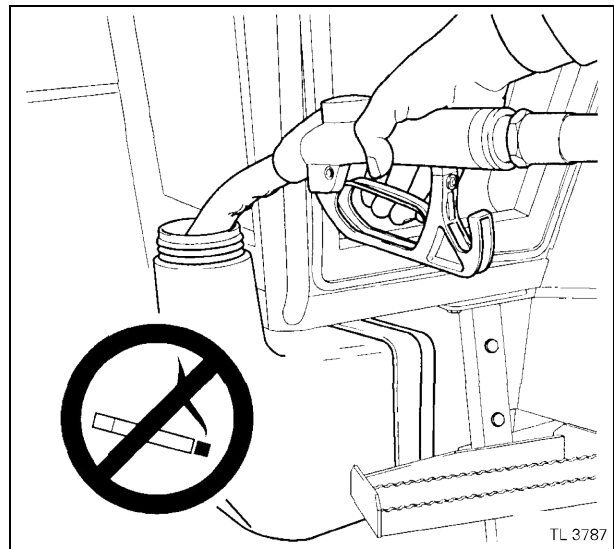

Fig. 9
- **DO NOT** smoke while refuelling the tractor. Keep any type of open flame away (Fig. 9).